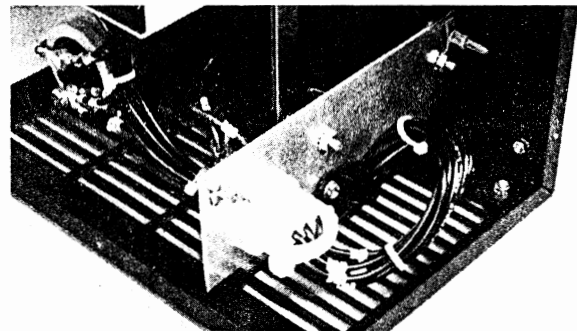

FIGURE 11
02.16 Locate the multi-wire harness in MPSA (Figure 11), it terminates in a nylon connector.